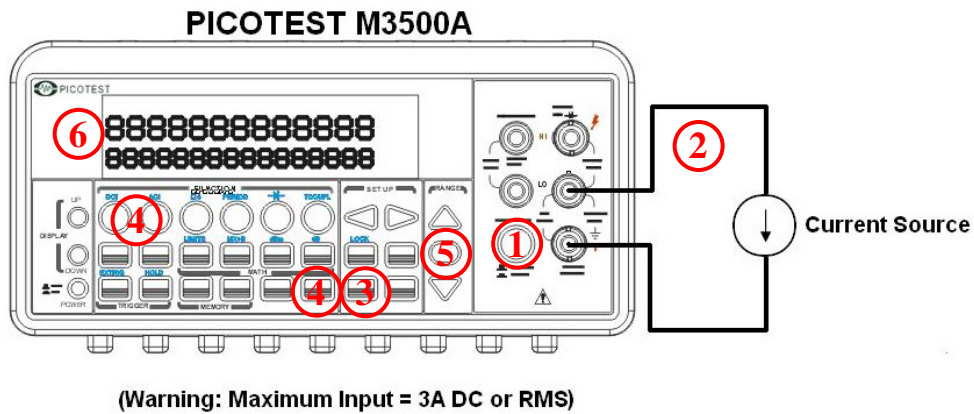

Figure 3-4
The ranges for DC current measurements in M3500A are 10mA, 100mA, 1A and 3A. For AC current measurements, the range is 1A with a sensitivity of 1 μ A to 3A AC-Coupled TRMS with a sensitivity of 10 μ A. **Figure 3-4** and **3-5** show you how to measure DC/AC currents in M3500A.
- ① Selects input signal connections on front or rear panel.
- ② Connect the test leads to the terminals as shown in **Figure 3-4**.
- ③ Set RESOLUTION of DCI (Refer to 4.1.3), BANDWIDTH of ACI (Refer to 4.1.2.1) or skip this step if default is to be used.
- ④ Press SHIFT+DCV or SHIFT+ACV buttons for DCI or ACI measurement.
- ⑤ Select the auto-range function by pressing AUTO button on the front panel or use Δ and ∇ buttons to select desired range.
- ⑥ Connect test leads to your source signal and observe the reading shown on the display. If the input signal is greater than the allowed range, an overflow message "OVL" will be displayed.